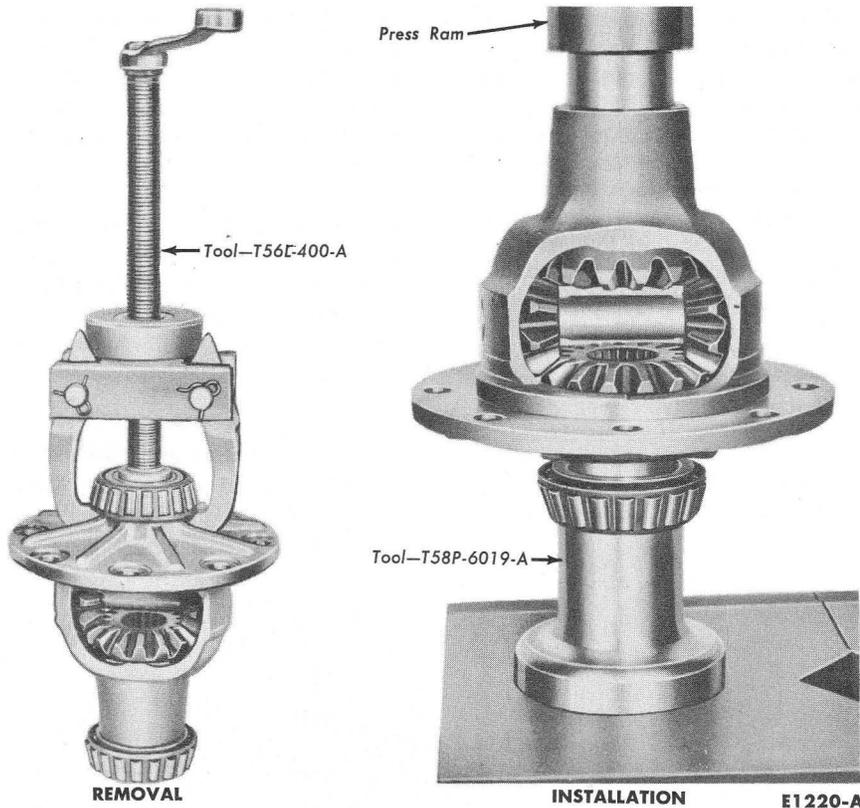

FIG. 13—Differential Bearing Removal and Installation
1. If the differential bearings are to be removed, use the tools shown in Fig. 13 to remove the old bearing and install the new bearings.
2. With a drift, drive out the differential pinion shaft retainer (Fig. 13), then separate the two-piece differential case (Fig. 2).